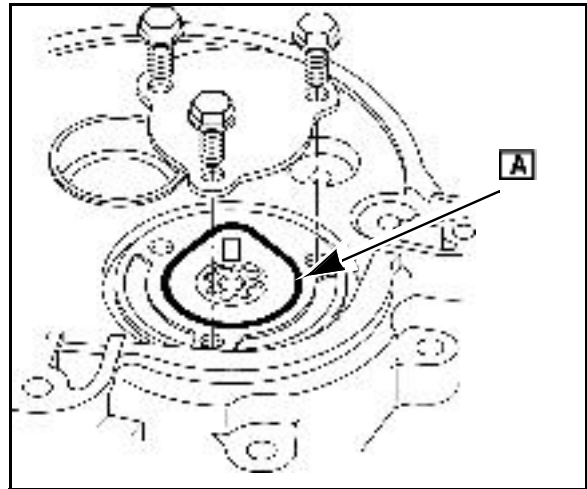

Fig. 23
1. Install O-ring ([A] Fig. 23) to groove in sump.